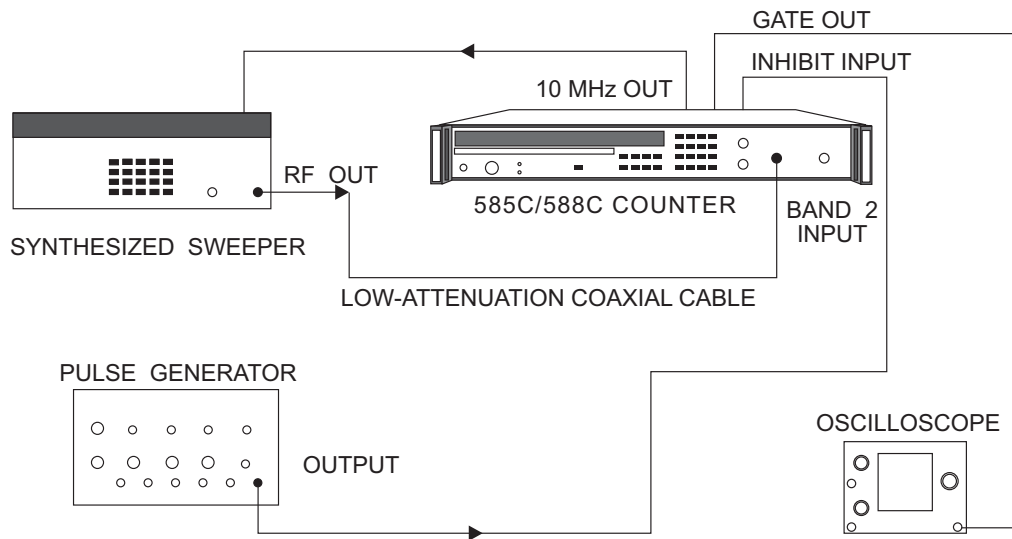

Figure 6-13. Band 2 Averaging Error Test Setup
1. Connect the equipment as shown in **Figure 6-13**, and turn the equipment on.